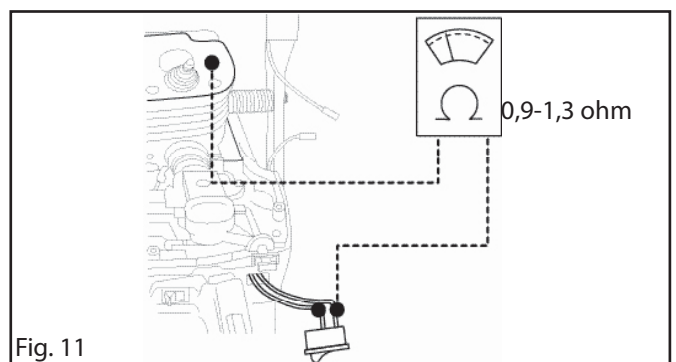

Fig. 11
6. Connect the ohmmeter as shown in fig. 11 and measure the resistance in the generator. The ohmmeter should read between 0.9 - 1.3 Ω . If the reading is higher or lower, replace the generator.